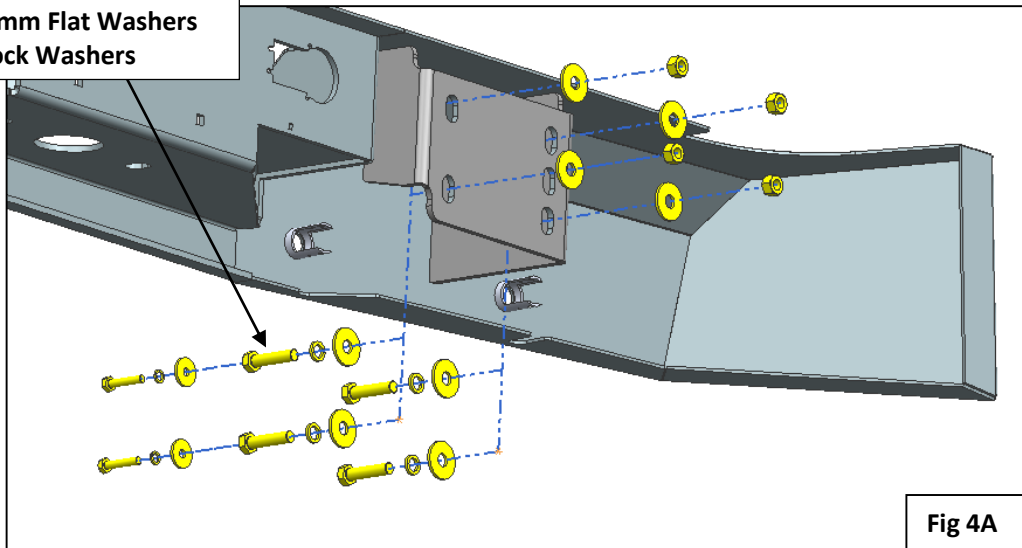

Fig 4A
- a. Models with 8mm Welding Nut (Fig 4A):